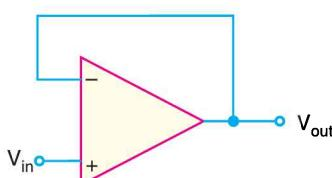

**Fig. 25.102**
9. Determine the closed-loop voltage gain for the circuit shown in Fig. 25.102.